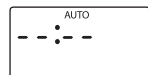

fig. 3
- When set in this way the heater will automatically switch on at the set time for the designated time period and automatically maintain the preset comfort temperature. To cancel a preset program, press the timer button A or B once and then press the hour button until the display shows “--:--” (fig.3).